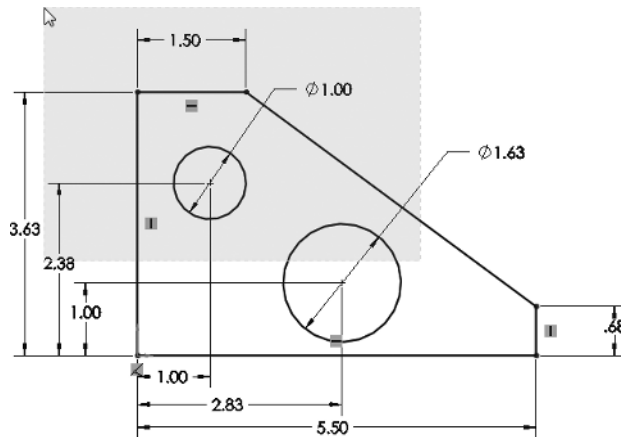

FIGURE 1.33 Cross selection using the mouse
2. Hold the left mouse button down while you drag from right to left. This is the cross-selection window (see Figure 1.33). The color inside of the box is green, and the boundary line is dashed. Everything that falls within this box and crosses the dashed line will be selected.